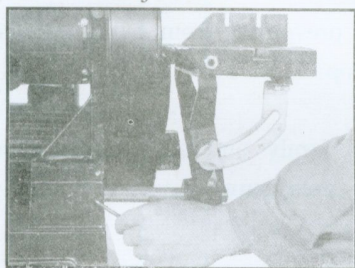

Fig 3
4. Insert the lock shaft into the hole of the workbench as shown in (fig 3), then lock the two set screw, then insert the lock shaft into the hole of the base, but you remember that the surface of the Shaft must face the set bolts, then tighten them and make 1.6mm between the table and disc.